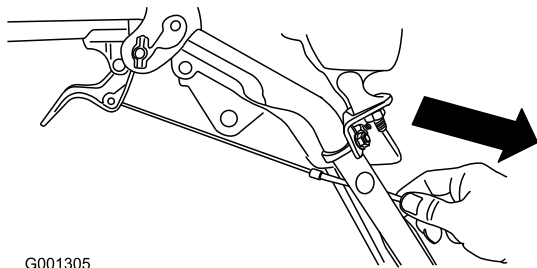

Figure 9
4. Pull the cable jacket down gently until the wheel clutch lever is down and the slack is out of the cable, then tighten the cable clamp nut securely (Figure 9).